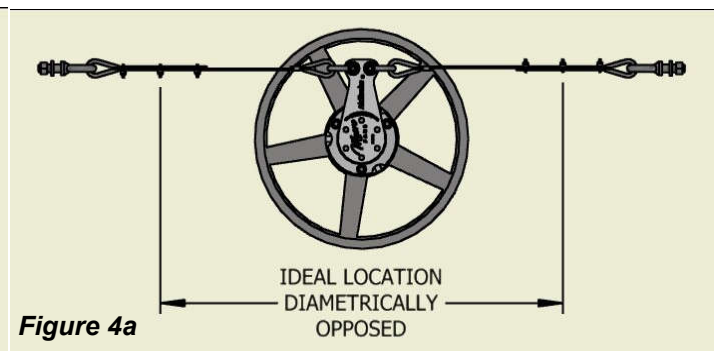
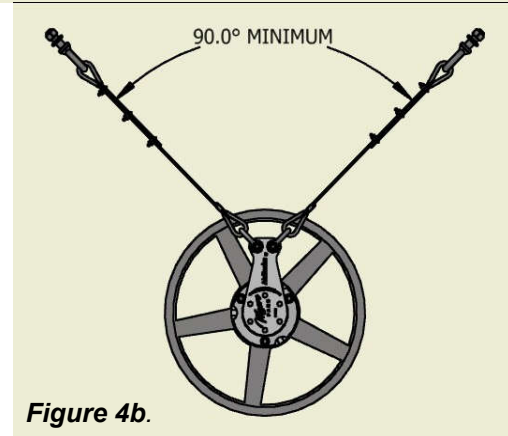
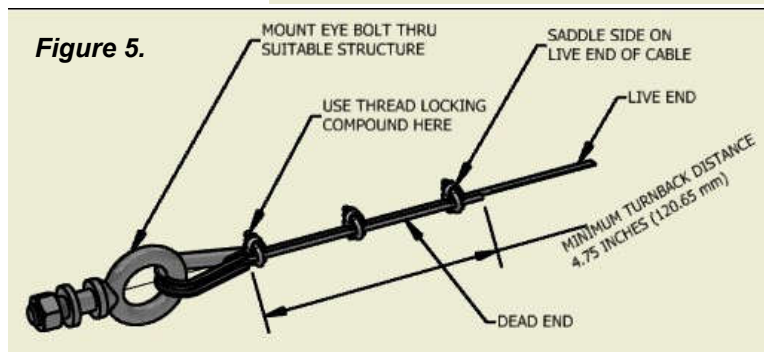
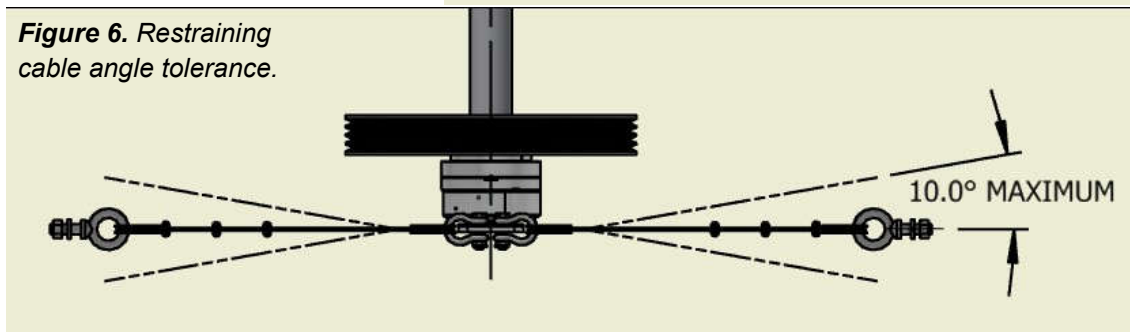

Figure 4a
Figure 4b.
Figure 5.
Figure 6. Restraining cable angle tolerance.
**STEP 4:** Refer to **Figure 4a**, **Figure 4b**, **Figure 5** & **Figure 6**. Attach the supplied 1/2"-13 eye bolts to nearby suitable supports using supplied lock washers and nuts. Each eye bolt should be as near to straight-line opposite each other as possible (see **Figure 4a**). Effectively creating an imaginary line through the junction of the double cable AirBrake® arm shackle bolts. While 180° is the optimum cable placement, it is allowable for the cables to form as small an angle as 90° (see **Figure 4b**), on the plane of the AirBrake® arm. Secure the free ends of the restraining cables to the eye bolts by first inserting one of the supplied thimbles through each eye bolt. Pass each cable around it's associated thimble and secure with three wire rope clips on each cable. See **Figure 5** for proper wire rope clip installation. Ensure that the attachment of the cable to the support will not make the cable more than plus or minus 10° out of level as illustrated in **Figure 6**. Remove as much slack as practical from each cable. However, cables should **NOT** be taut. Apply Loctite® 262 (or equivalent) to the threads of the wire rope clips and tighten the clips.